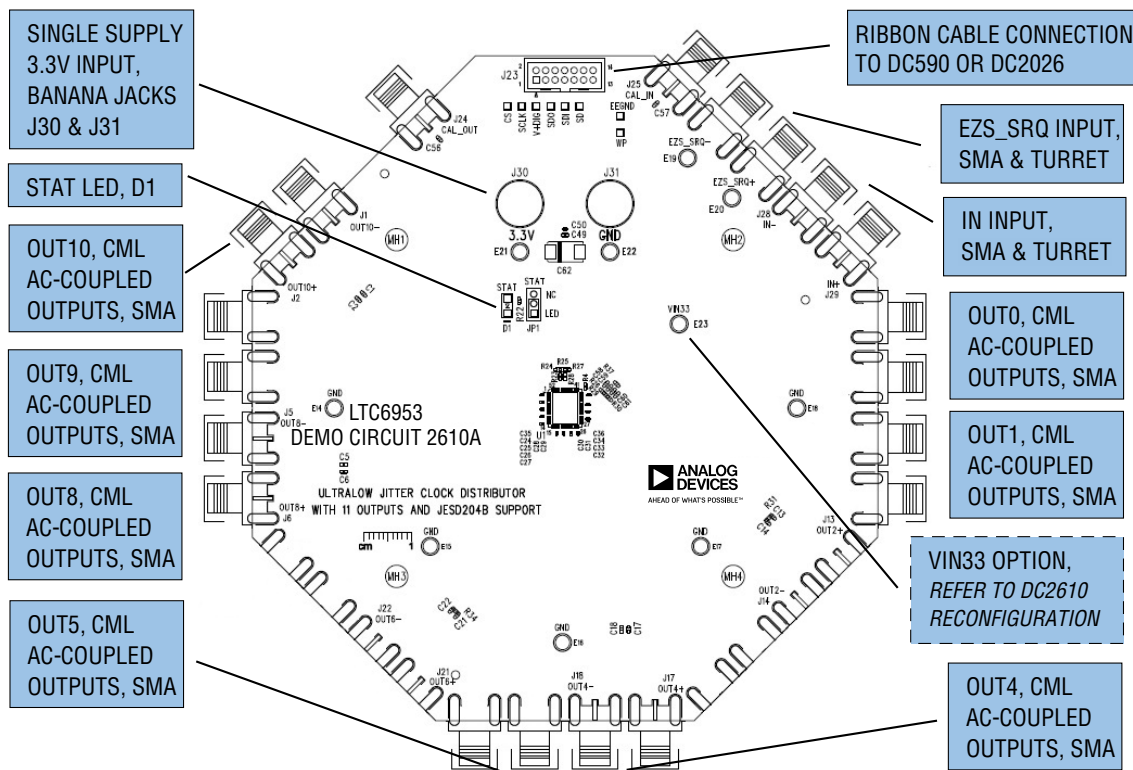

Figure 1. DC2610A Connections
1. Connect J30 and J31 to a power supply and apply power (see Figure 1 and the Typical DC2610A Requirements and Characteristics).